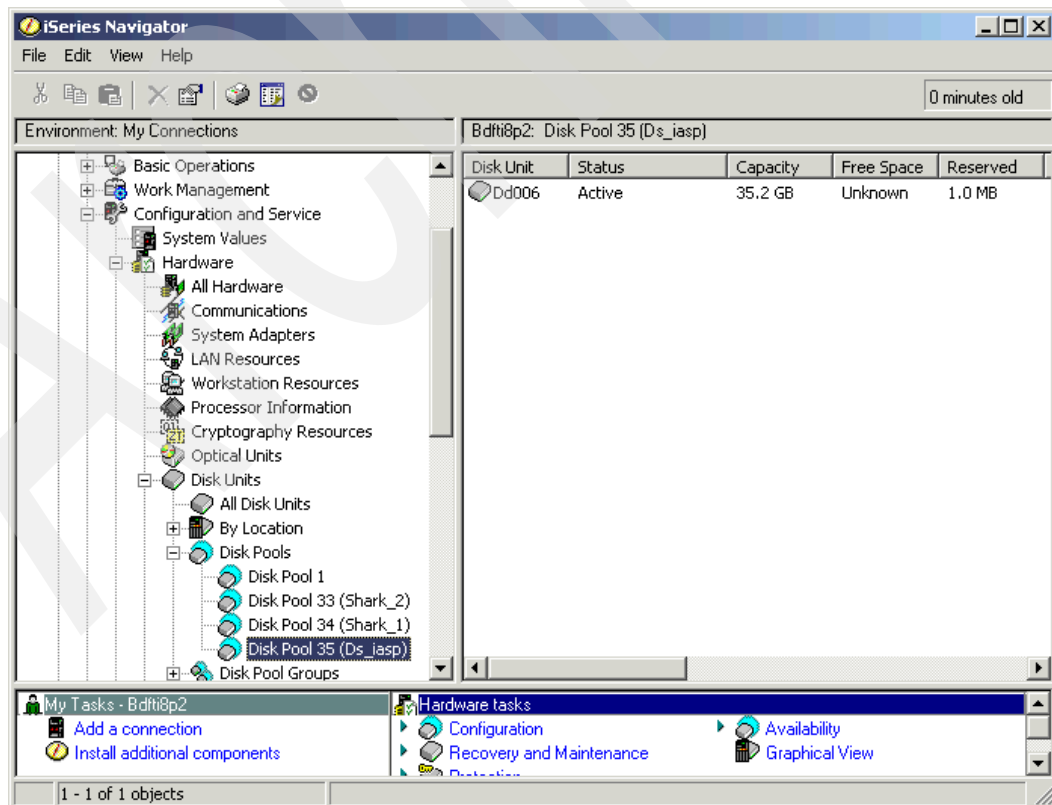

Figure 17-19 New logical volumes shown on System i Navigator
16. To see the logical volume, as shown in Figure 17-19, expand **Configuration and Service** → **Hardware** → **Disk Pools**, and click the disk pool that you have just created.